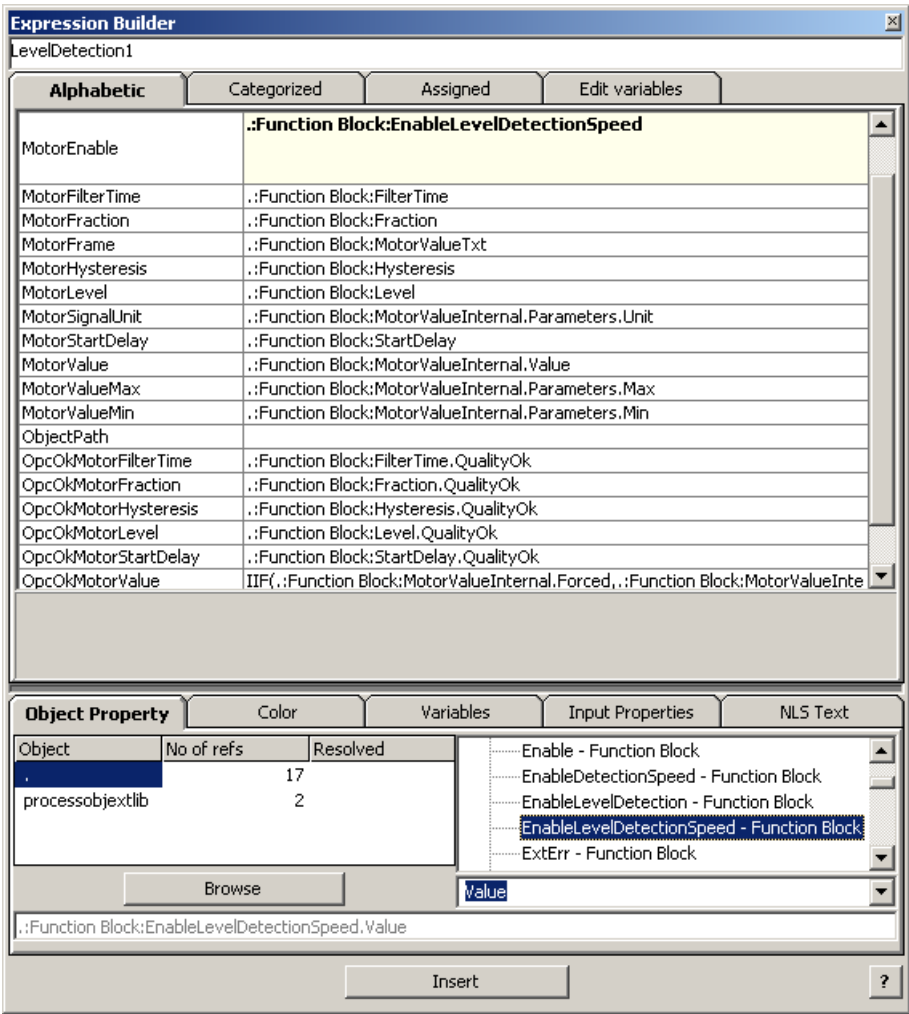

Figure 179. Changing the signals from EnableLevelDetection to EnableLevelDetectionSpeed in the Expression Builder window
8. In the Expression Builder window, all the connections in the expressions from the signals used in the LevelDetection function block are changed to the signals used in the LevelDetectionSpeed function block. For example, the signal in the expression for MotorEnable is to be changed from EnableLevelDetection to EnableLevelDetectionSpeed (see the Figure 179).